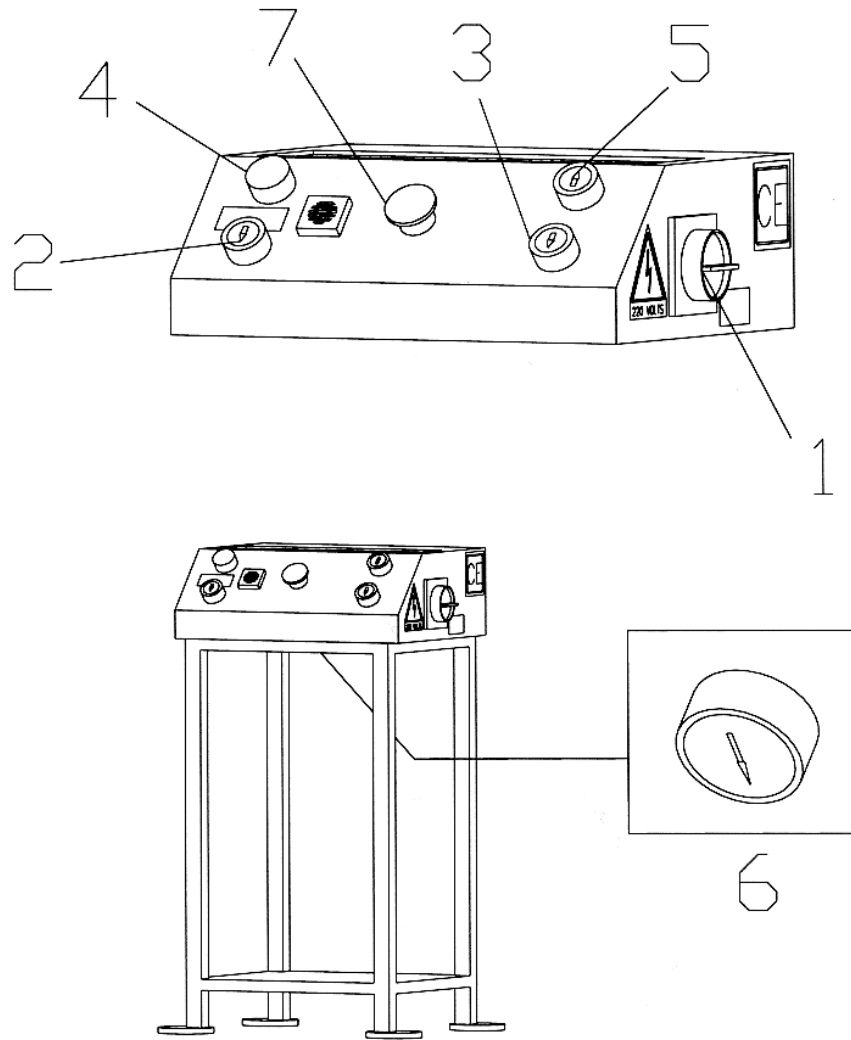

Figure 7 - Power unit and related controls
When all lines are connected, turn on the main switch (Figure 7, Item 1). Set the SELECTION switch to the required position, and check that the direction of the motor rotation is correct (counterclockwise) by pressing the UP key (Figure 7, Item 5). If the direction of rotation is not correct, interchange the two phases of the main switch.
5. To raise the runway P2 to the final top position, press the UP key (Figure 7, Item 5) and the RELEASE key simultaneously (Figure 7, Item 6 - having removed the front panel of the control desk). Hold these two keys pressed until both runways are raised fully to the final top position. Once the final top position has been reached, hold the keys pressed for a further 10 - 20 seconds to bleed the hydraulic system.
4. Check the pneumatic control operations for proper performance. By pressing the DOWN key (Figure 7, Item 3), the gear racks are disengaged.
5. Press the DOWN key (Figure 7, Item 3), and lower the runways completely.